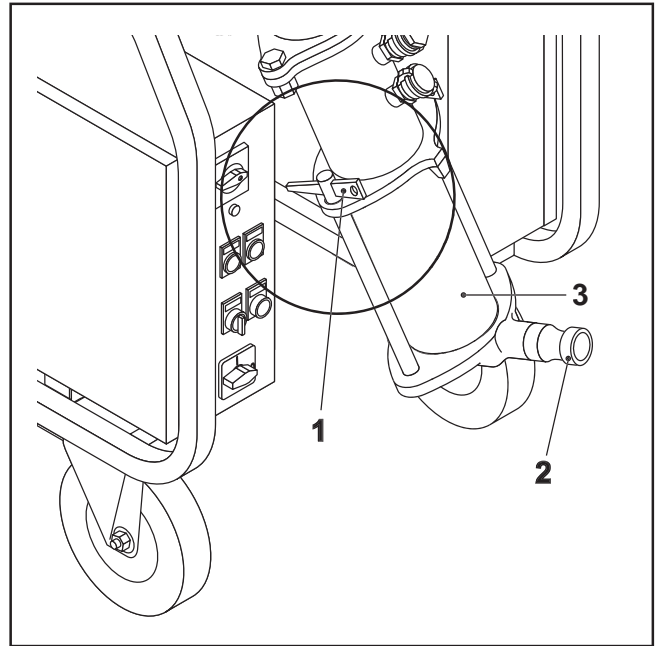

FIG.34
- Remove the material flow flange (FIG.34-REF.2) and the pump (FIG.34-REF.3) sliding out the tie-rod chocks (FIG.34-REF.1).